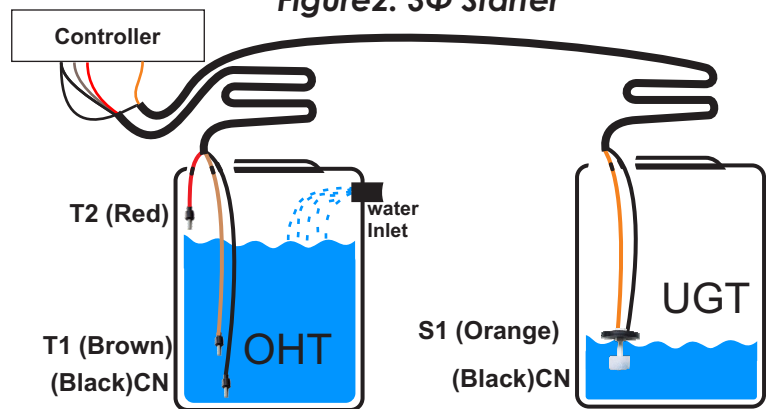

Figure4: Sensor Connection
**connections:** These sensor has 2 wires. Use any one wire in each sensor as common. Other wires left in each can be used for levels. Join them with 4 core cable as per label coded. (Refer figure 4)